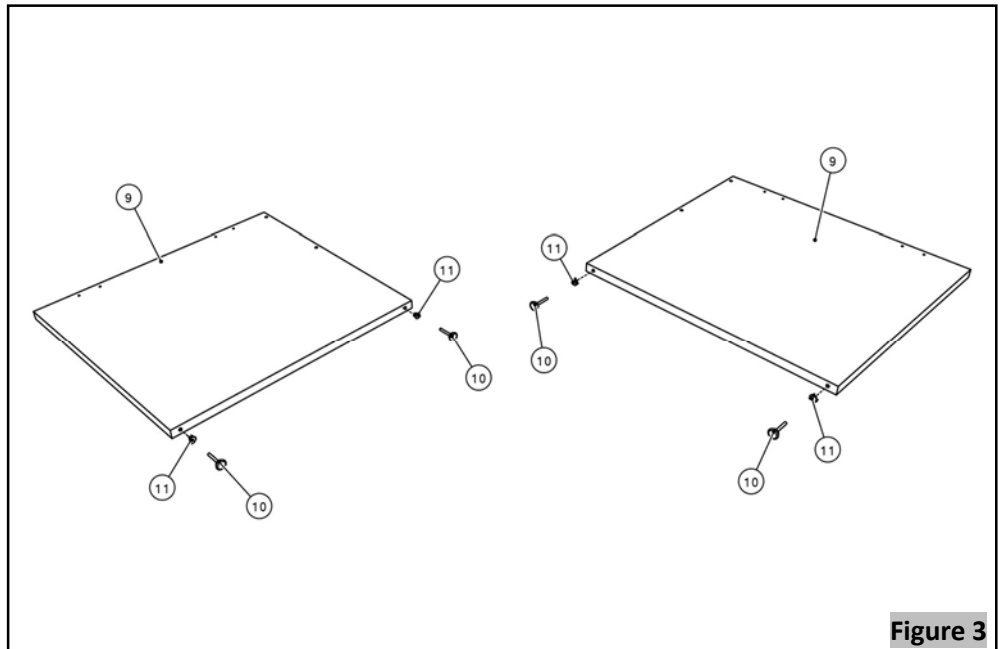
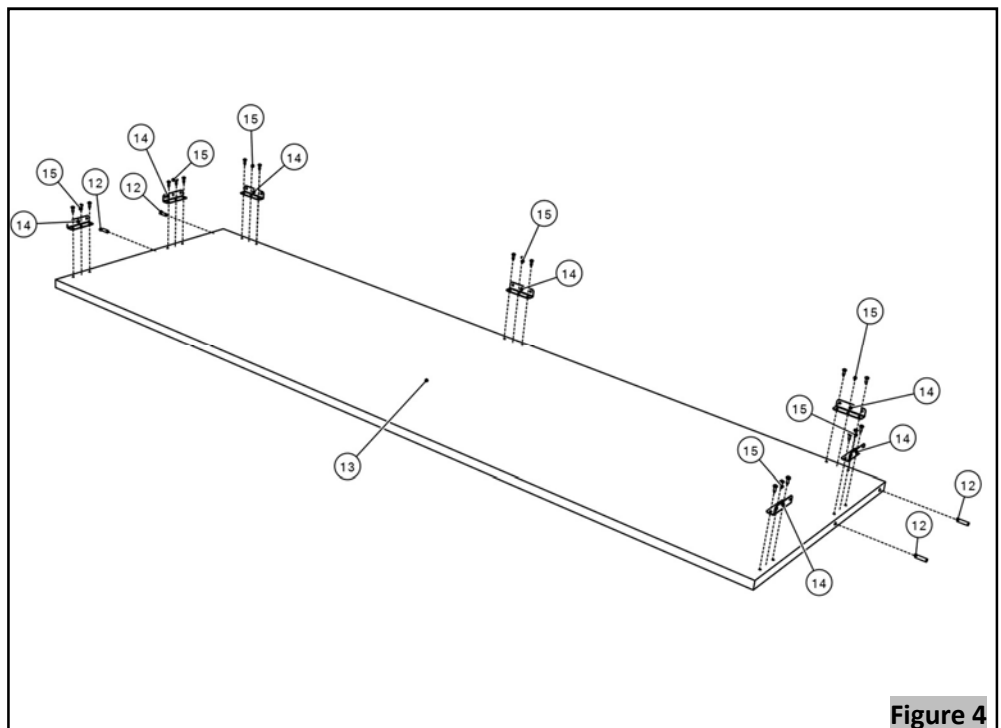

Figure 3
Figure 4
4. Figure 4 shows the assembled CPU holder.
6. Unscrew the glides (10) of the laminate end gables (9) and pry the "T" nut (11), **Figure 3**. Place them in the recycle bin containing steel materials.
7. Place the laminate end gables (9) in the waste bin.
8. Remove the wooden dowels (12) of the laminate modesty (13), **Figure 4** and place them in the recycle bin containing wooden materials.
9. Detach the 90° steel bracket (14) of the laminate modesty (13) by removing the screws (15). Place the 90° steel brackets and screws in the recycle bin containing steel materials.
10. Place the laminate modesty (13) in the waste bin.